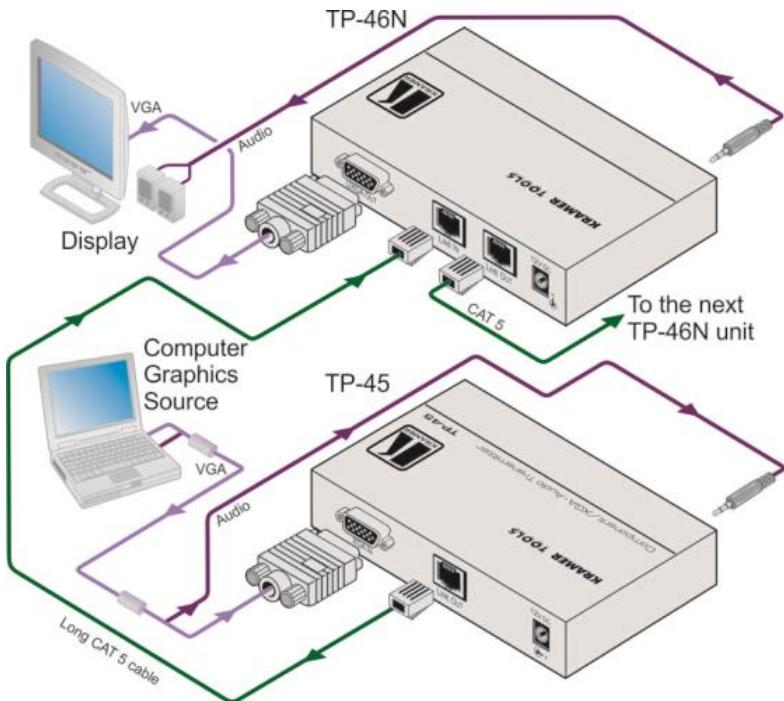

Figure 2: Distribution System, UXGA Mode
To configure a **TP-46N** component/UXGA/audio distribution system in the UXGA mode (using up to 300ft (100m) of UTP cabling), as shown in Figure 2, do the following:
6. Connect the 12V DC power adapter to the power socket and connect the adapter to the mains electricity on both the **TP-45** and the **TP-46N** (not shown in Figure 2).
- The signal from the UXGA source is transmitted via CAT 5 cable, decoded and converted at the UXGA OUT 15-pin HD (F) connector to the UXGA acceptor.